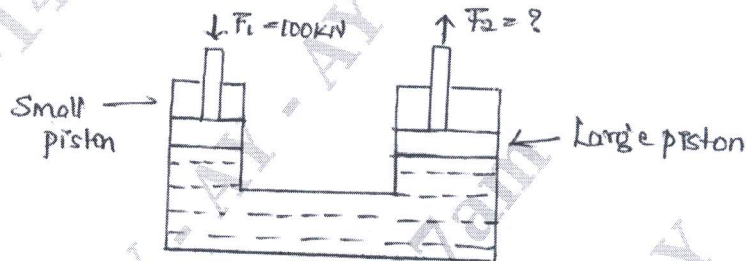

Fig. Q1 (c)
c. In the hydraulic press shown in Fig. Q1 (c), a force of 100 N is exerted on the small piston. Determine the upward force on the large piston. The area of the small piston is $50 \times 10^2 \text{ mm}^2$. Also find the distance moved by the large piston, if the small piston moves by 100 mm. (08 Marks)